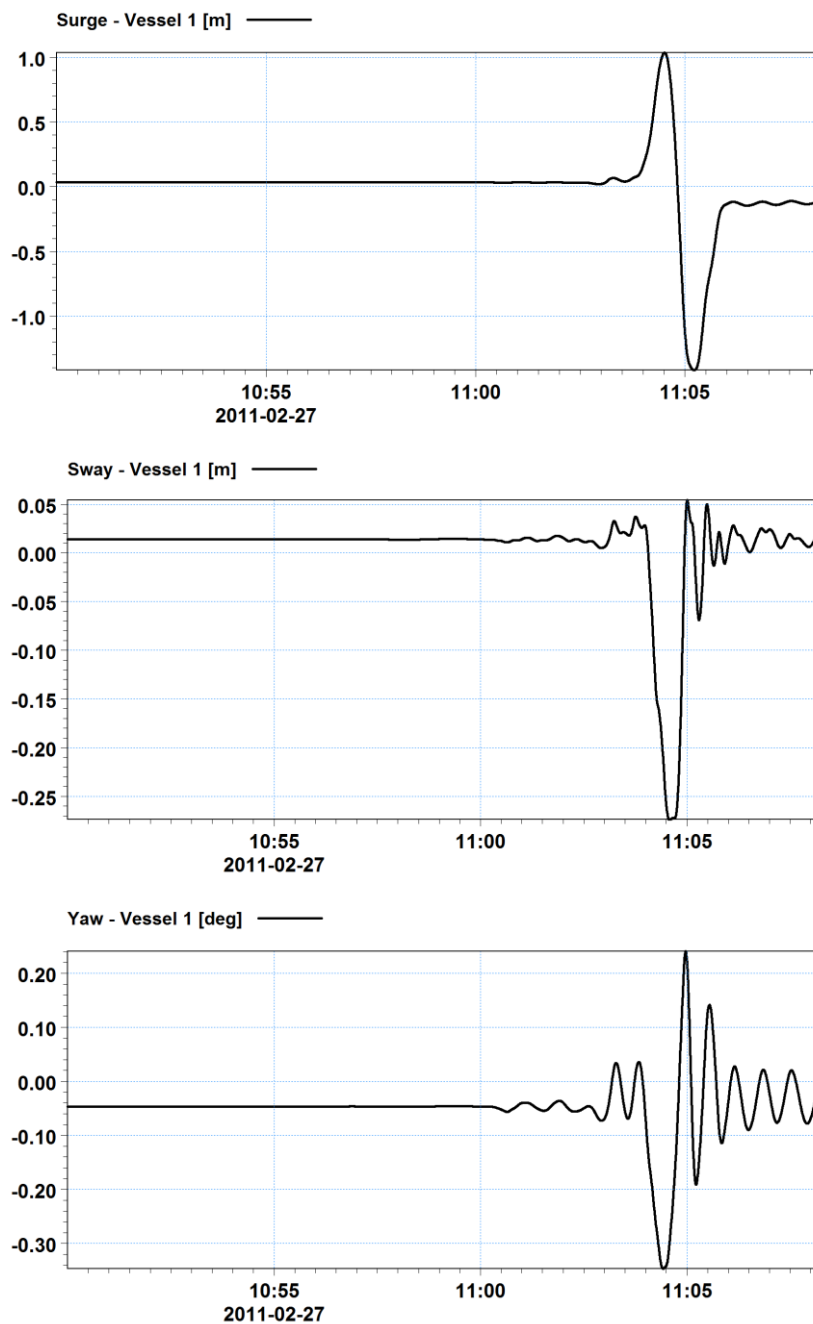

Figure 3.25 Passing vessel induced moored vessel motions - surge, sway and yaw
- Open the newly created *Vessel1_motions.dfs0* file and plot the *Surge, Sway and Yaw motions*. You should see that the vessel is stable until around 11:05 when the passing vessel generated displacement waves arrive at the berth and induce a large surge motion of the moored vessel. Motions in the other degrees of freedom are relatively small. Your plotted surge, sway and yaw motions should appear as shown in Figure 3.25.